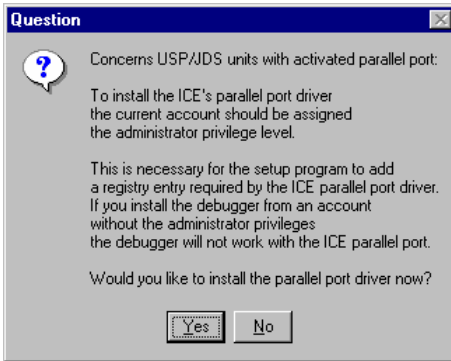

FIGURE 2 Installing the parallel driver.
2. On Windows XP/2000/NT, the dialog box shown in Figure 2 appears. If you intend to use the parallel with your emulator, click the Yes button.